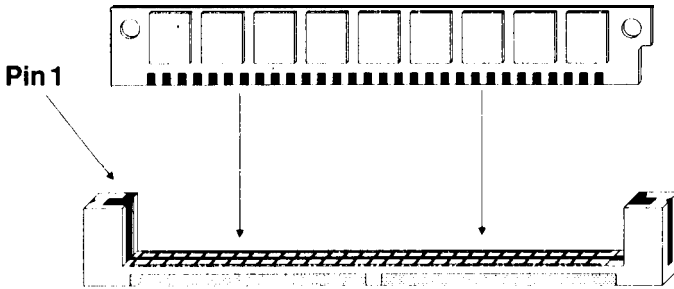

Figure 4-4. Installing SIMMs onto the system board
- Make sure the SIMM faces the front of the chassis (away from the IU connector). Align the SIMM with the socket hole and gently push the edge of the SIMM sockets, as shown in Figure 4-4, to release the module. Release one side of the SIMM first, then remove the other side to prevent breaking through the socket.